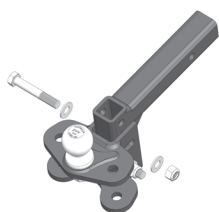

Figure 4
4. Use the 16mm bolts, 5/8" flat washers, and nuts to secure the head to the shank at the correct height. Hand tighten the nuts. (Figure 4)